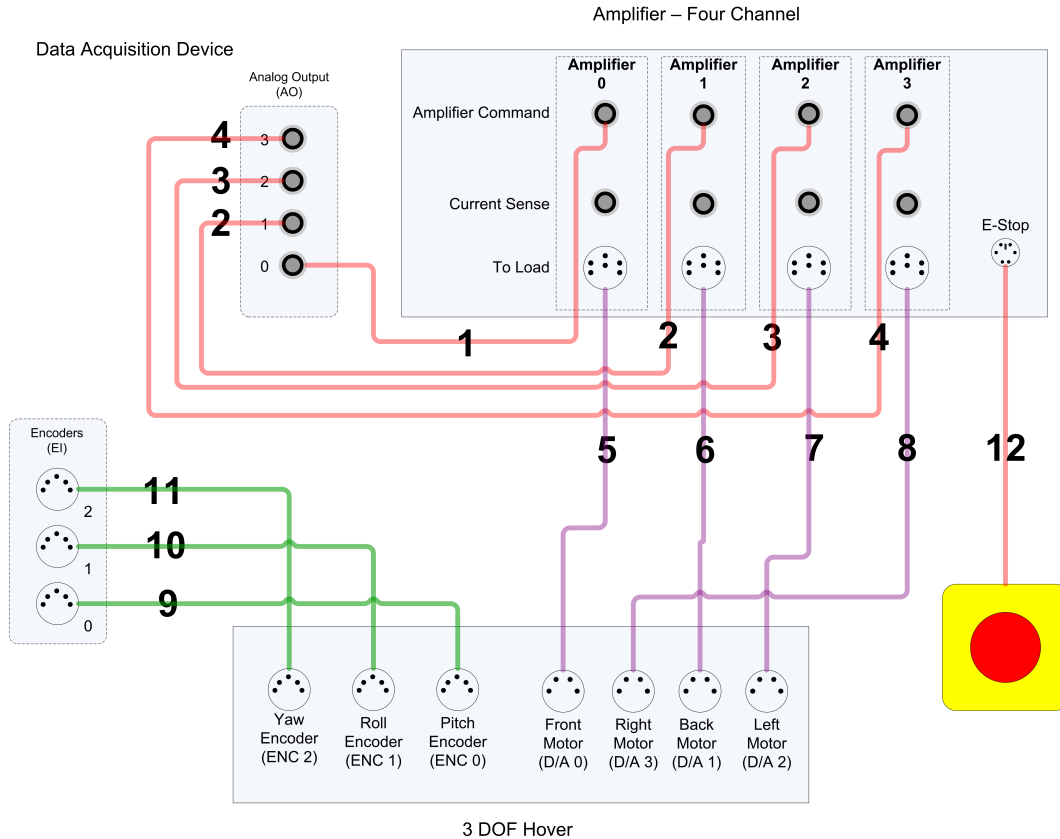

Figure 3.1: Typical connections of the 3 DOF Hover Experiment
This section describes the typical cabling connections that are used by default for the Quanser 3 DOF Hover system. The encoders are connected directly to the data-acquisition device and provide the necessary position feedback to control the helicopter. The data acquisition (DAQ) device outputs a control voltage that is amplified and drives the front, back, left, and right motors. Figure 3.1 illustrates the wiring between a generic data acquisition device, the Quanser 3 DOF Hover base, and a four-channel amplifier. These connections are described in detail in Section 3.3.1 and summarized in Table 3.1.
Note: Your configuration may be different. For instance, you may have a DAQ with more channels than the one presented in Figure 3.1 or have four single-channel amplifiers that do not require any Emergency Stop (in which case, you would omit connection #12).
3. Connect one of the connectors on the 2x RCA to 2x RCA cable from the *Analog Output Channel #0* on the terminal board to the Amplifier 0 *Amplifier Command* connector. This is illustrated by connection #1 in Figure 3.1.
4. Connect the other line of the 2xRCA to 2xRCA cable from the *Analog Output #1* connector on the terminal board to the Amplifier 1 *Amplifier Command* connector. This is illustrated by connection #2 in Figure 3.1.
5. Connect a 4-pin-DIN to 6-pin-DIN cable from Amplifier 0 *To Load (3x Amplifier Command)* connector, to the *Pitch Motor (D/A 0)* connector on the Quanser 3 DOF Hoverplant. This is illustrated by connection #3 in Figure 3.1.
6. Connect another 4-pin-DIN to 6-pin-DIN cable from the Amplifier 1 *To Load (3x Amplifier Command)* connector, to the *Yaw Motor (D/A 1)* connector on the Quanser 3 DOF Hoverplant. This is illustrated by connection #4 in Figure 3.1.
7. Connect a 5-pin-stereo-DIN to 5-pin-stereo-DIN cable from the *Encoder 0* connector on the terminal board, to the *Pitch Encoder (ENC 0)* connector on the Quanser 3 DOF Hoverplant. This is illustrated by connection #5 in Figure 3.1.
8. Connect another 5-pin-stereo-DIN to 5-pin-stereo-DIN cable from the *Encoder 1* connector on the terminal board to the *Yaw Encoder (ENC 1)* connector on the Quanser 3 DOF Hoverplant. This is illustrated by connection #6 in Figure 3.1.
9. Connect the emergency stop switch to the E-Stop connector on the amplifier. This is illustrated by connection #7 in Figure 3.1.